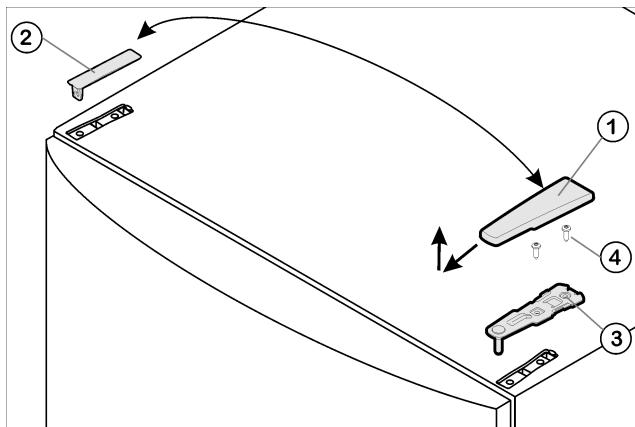

Fig. 4
- ▶ Pull the cover *Fig. 4 (1)* forward and up.
- ▶ Lift the cover *Fig. 4 (2)* off.
- ▶ Unscrew the upper bearing bracket *Fig. 4 (3)* (2 Torx® 25 screws) *Fig. 4 (4)* and pull it upward to remove.
- Insert the upper bearing bracket *Fig. 4* (3) on the new hinge side into the door.
- Tighten the upper bearing bracket (**to 4 Nm**) (2 x Torx® 25 screws) *Fig. 4* (4). Make preliminary holes (optional) or use a cordless screwdriver.
- From the outside, position cover *Fig. 4* (1) and cover *Fig. 4* (2) on the opposite side and snap into place.